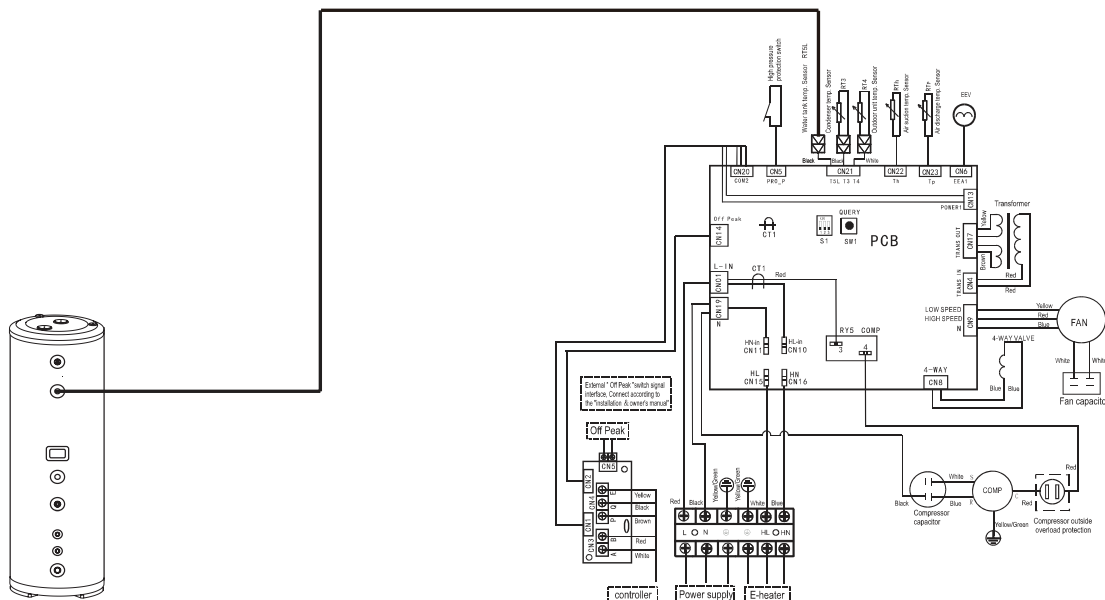

Fig. 5-2
5.2 ELECTRICAL WIRING DIAGRAM (SEE FIG 5-2)